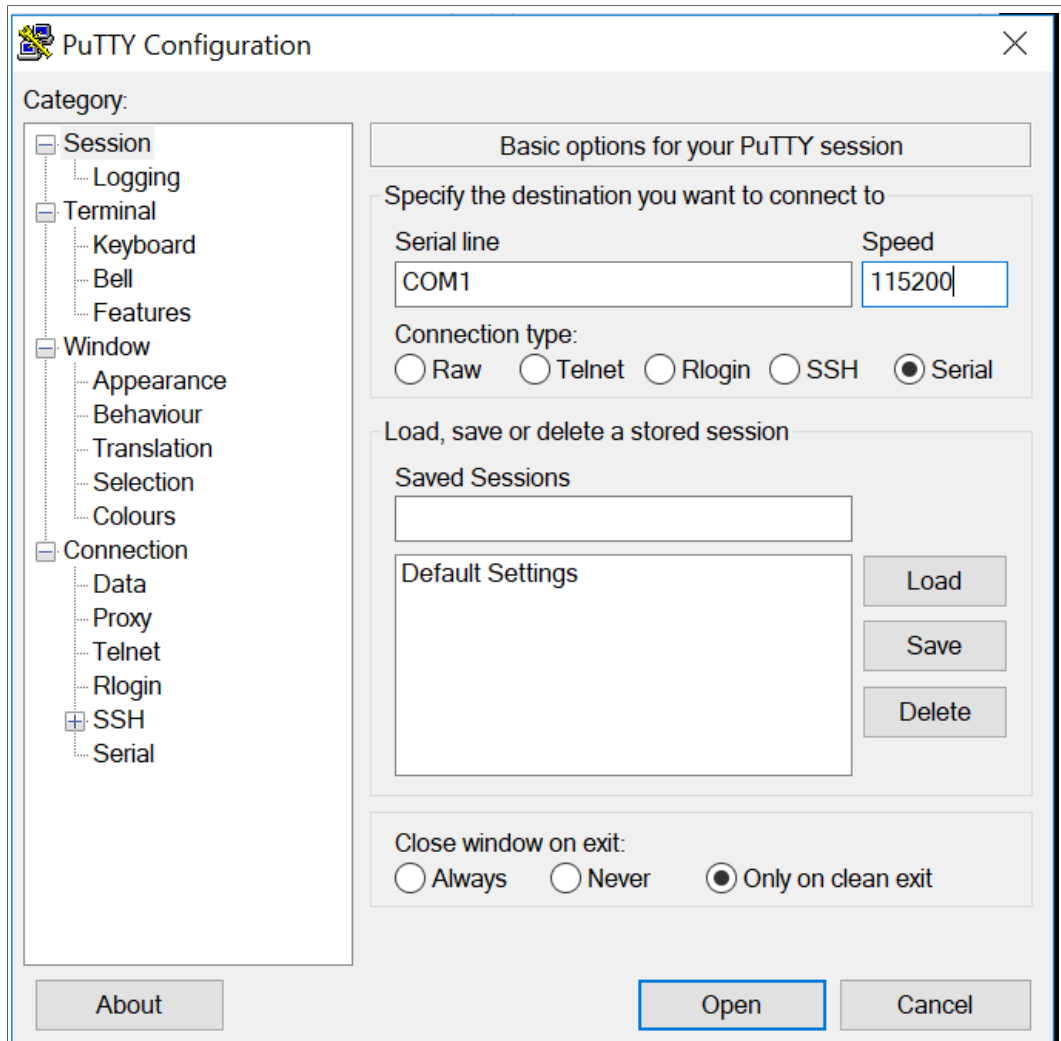

Figure 2. COM port settings
- c. Taking Putty as an example, COM port setting is as shown in Figure 2.